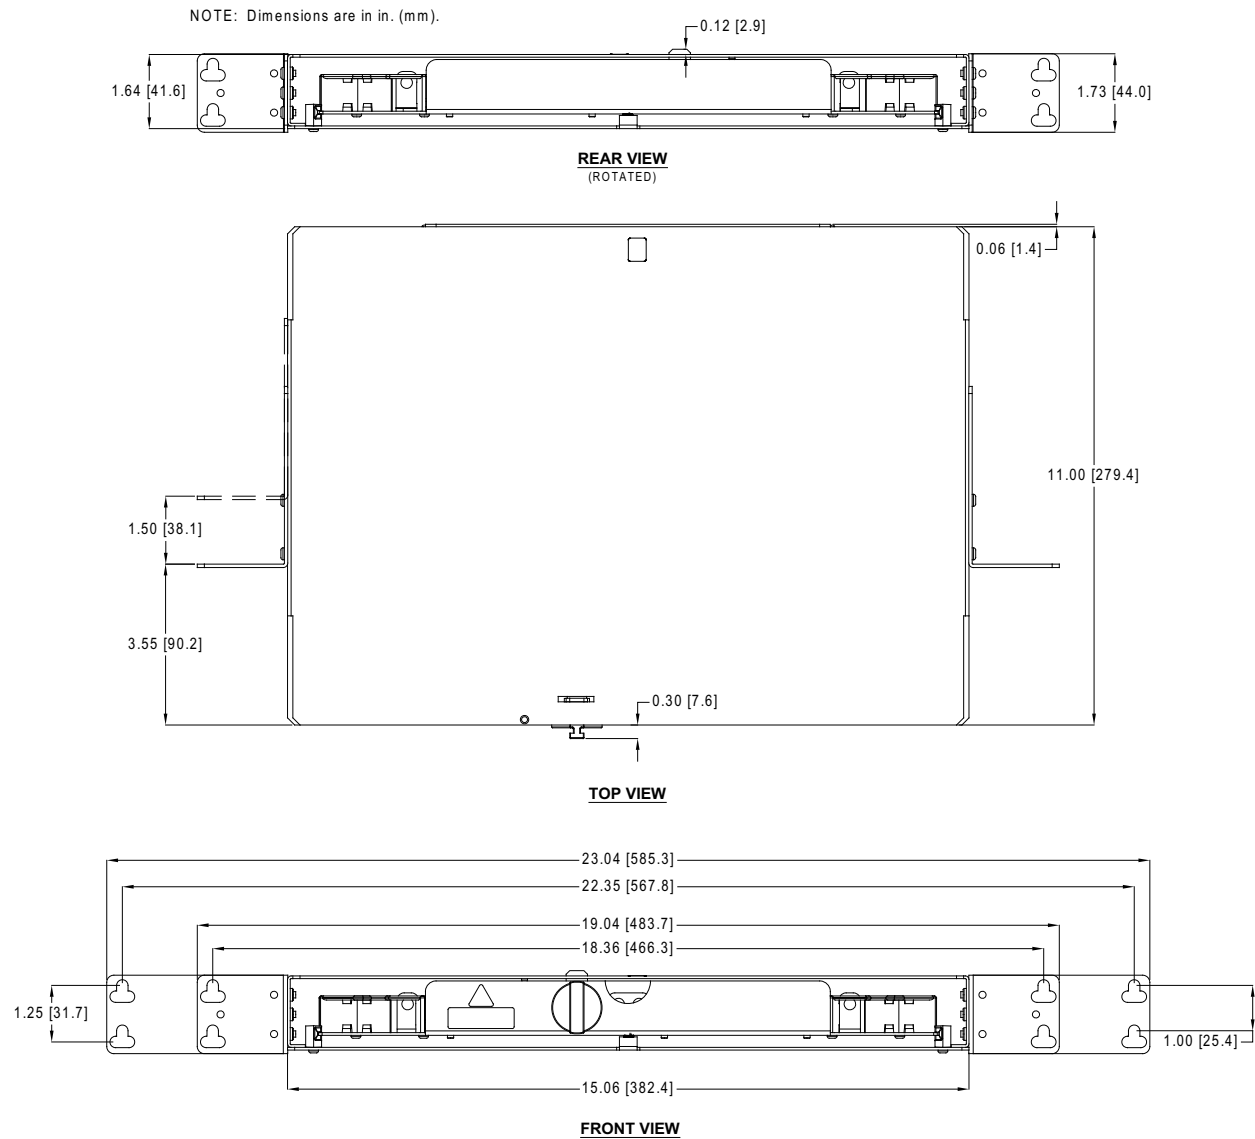

Figure 20 - 1RU LCX Chassis
- Dimensions: See the drawings (Figure 20 through 24) following these specifications for access and fit.